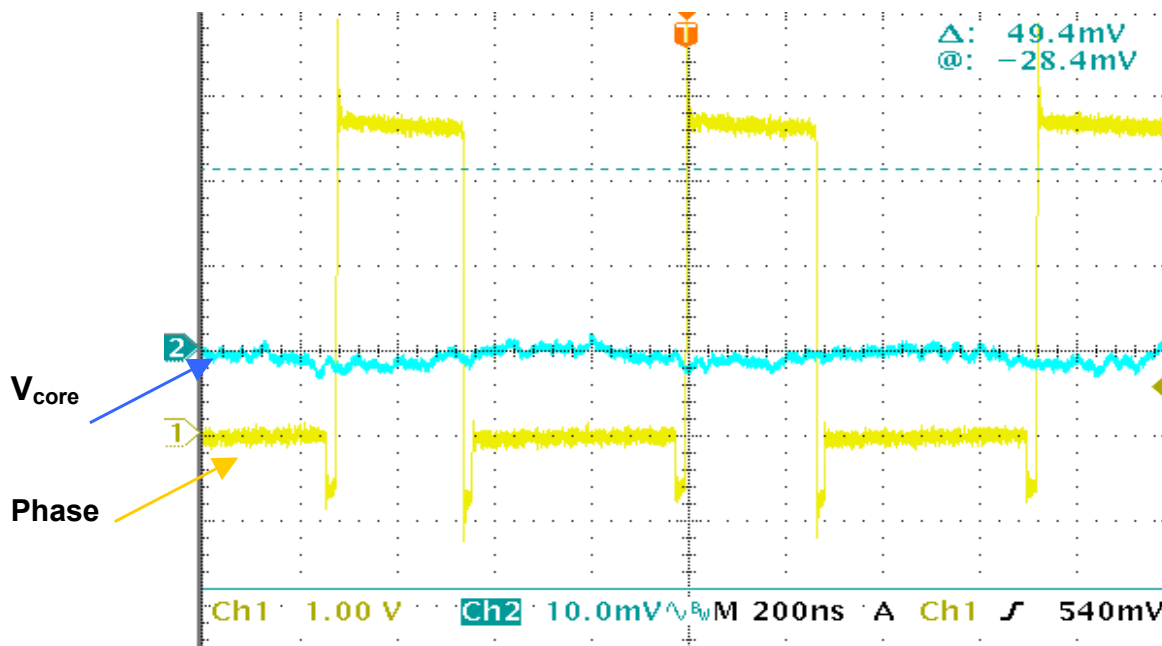

FIGURE 8. V_{CORE} AND PHASE
The phase node is a good signal point from which to trigger and observe cycle-by-cycle switching behavior of the V_{core} regulator. Connect the trigger channel to the TP2 probe point to trigger on the phase signal. See **Figure 8** for a typical scope shot of the V_{core} voltage(AC) when triggered from the phase node.